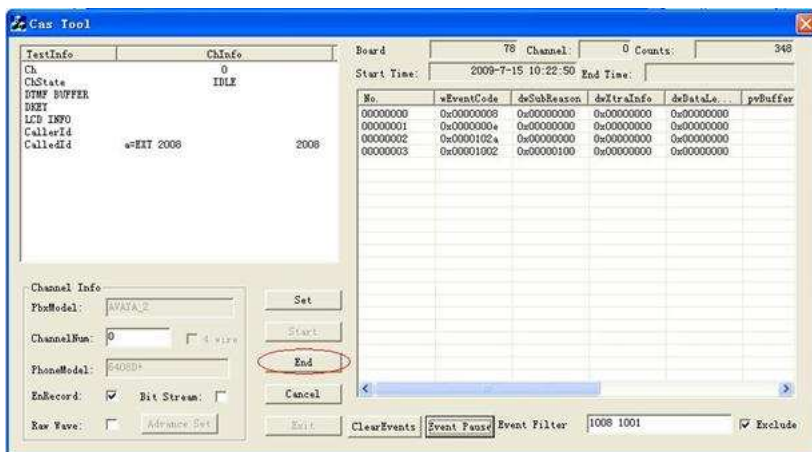

Figure 2-14
Step 10: When you finish all testings on the digital phone, click on 'End' to stop recording signaling messages as shown in Figure 2-14.